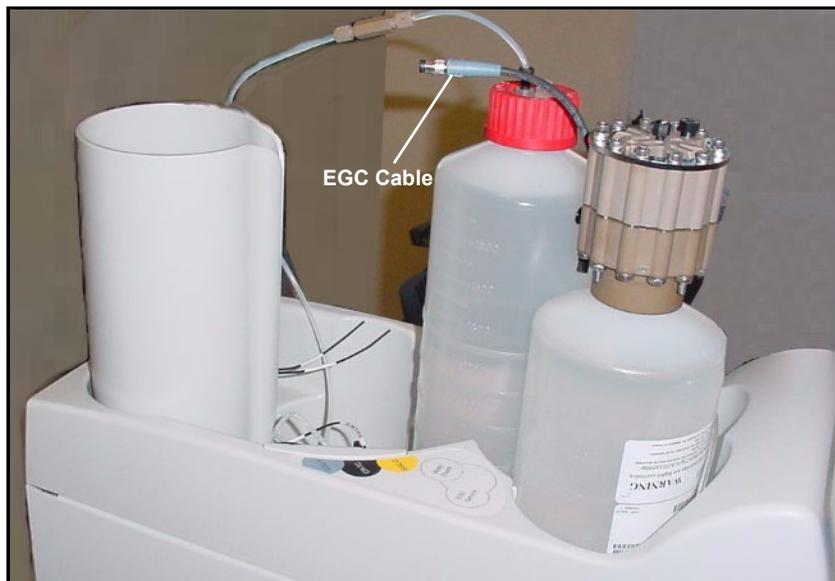

Figure B-36. EGC Cable Orientation
3. Orient the EGC with the cable toward the cartridge holder (see Figure B-36).